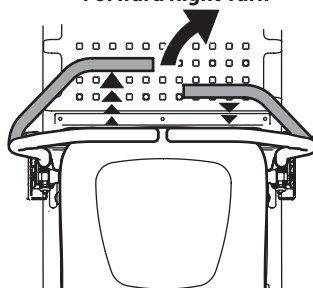

Figure 24
2. To turn to the right, move the right drive control lever rearward of the left lever (Figure 24).